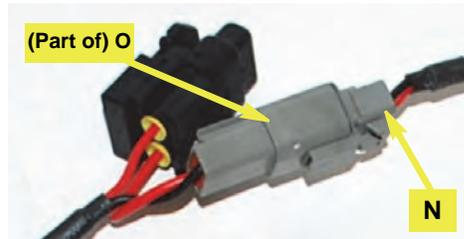

Figure 8c: Power cable to junction box cable
- d. Connect the gray connector of the power cable **N** (routed into the cab at step 8a) to the gray cable from the junction box **O** (Figure 8c).